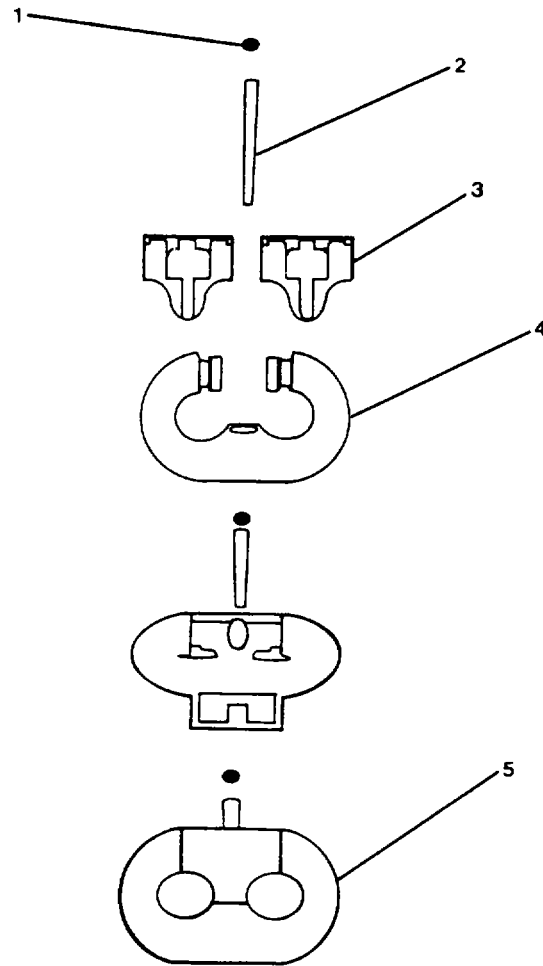

FIGURE 4-2. Detachable Link.
(3) Replace anchor if massive cracks are discovered.
c. Repair Steel Anchor Chain. (See FIGURE 4-2.)
(1) Inspect each standard link for pitting from corrosion, cracks, or other physical damage.
(2) Using caliper set micrometer, measure each detachable link pitting for corrosion or cracks. Outside diameter of link should not be less than 5% of 1-1/8 inch (1.069 inch).
(3) Clean minor corrosion from any links not requiring repair. Use sand paper or solvent as required.
(4) If anchor chain is found with corrosion, pitting, or other physical damage exceeding 5%, the entire shot (15-fathom chain length) must be replaced.
(5) To replace a shot containing a weak link, perform the following action